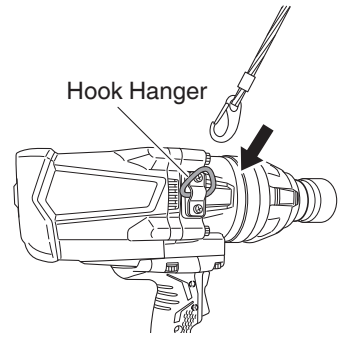

Fig. 7
7. Using the hook hanger (WR25SE) (Fig. 7)